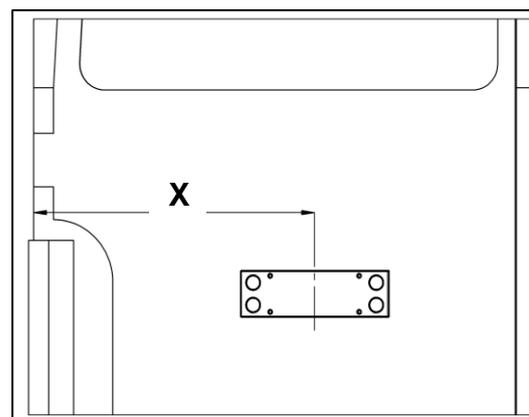

Fig. 48
- Secure the control panel (b) to the right-hand vehicle door (a) using the fasteners (1, 6, 9) from the **accessories kit**, maintaining a distance of 400 mm +/-100 mm (15 3/4" +/- 1 15/16") as per specifications (see Fig. 37 und Fig. 48).